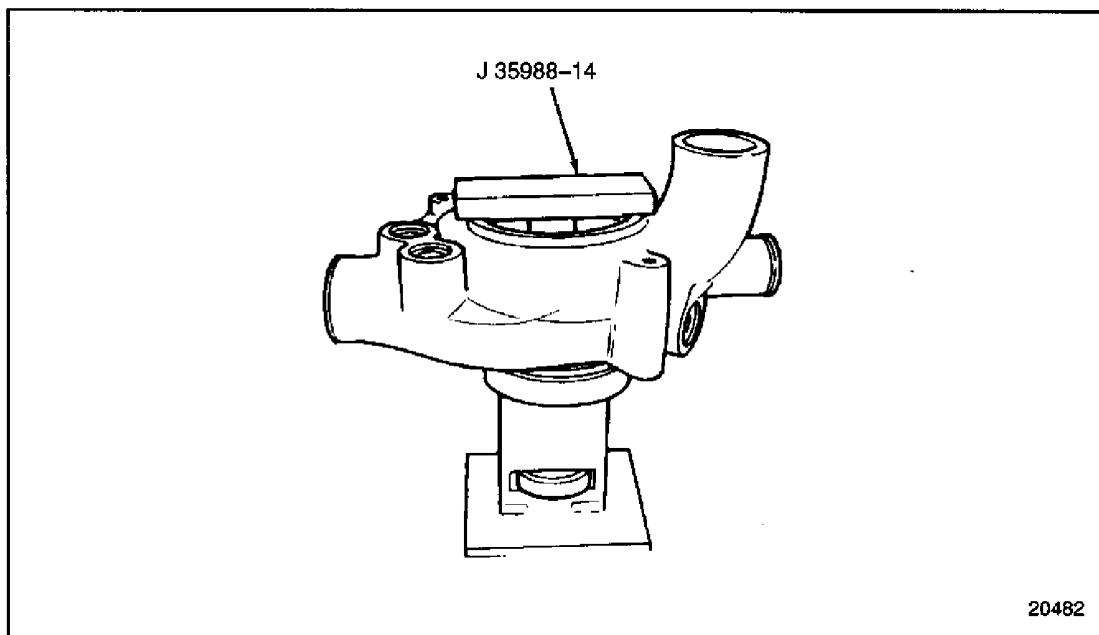

Figure 4-27 Water Pump Impeller Location
20. Using the impeller installation tool J 35988-14 part of J 35998-B, part of tool set J 35988-B, press the impeller on until the tool is flush against the water pump body. See Figure 4-27.